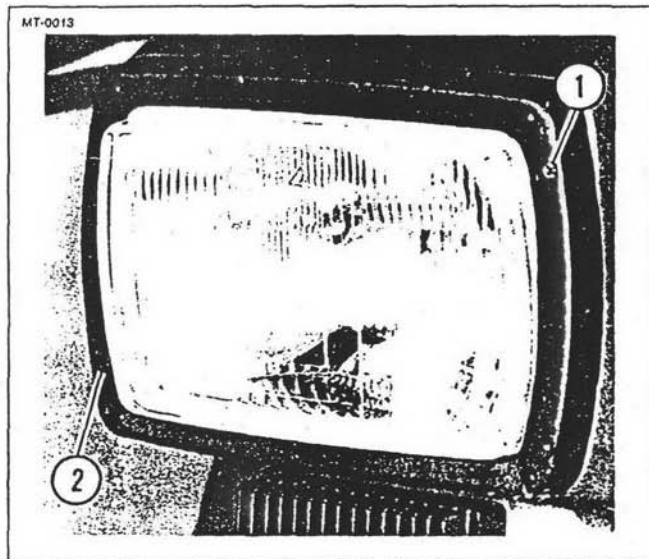

Figure 5-22. Headlamp Adjustment Screws
4. See Figure 5-22. Turn vertical adjustment screw (1) and horizontal adjustment screw (2) as required to aim